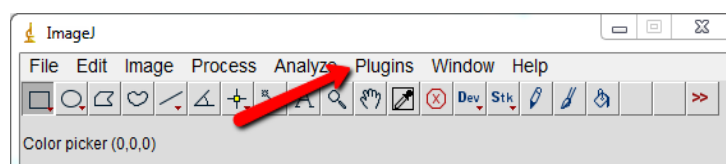

Fig 2. ImageJ main window (MS Windows)
Start by opening the folder containing ImageJ and double click the **Comstat2.bat** file (PC) or the **ImageJ64.app**. When ImageJ has launched, go to the menu *Plugins* and find the menu item *Comstat2* and click it (Fig 2). On Windows machines, the menu is included in the ImageJ dialog box. On Mac computers, the menu bar is located at the top of the computer screen, detached from the ImageJ window. If *Comstat2* is not seen in the menu, it has not been installed properly, - see Appendix D - troubleshooting.